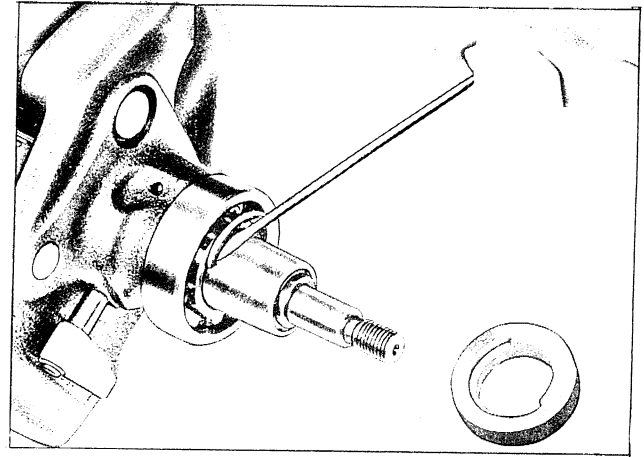

Figure 125
2. Pry off the snap ring against which the collar bottoms *Figure 125*.